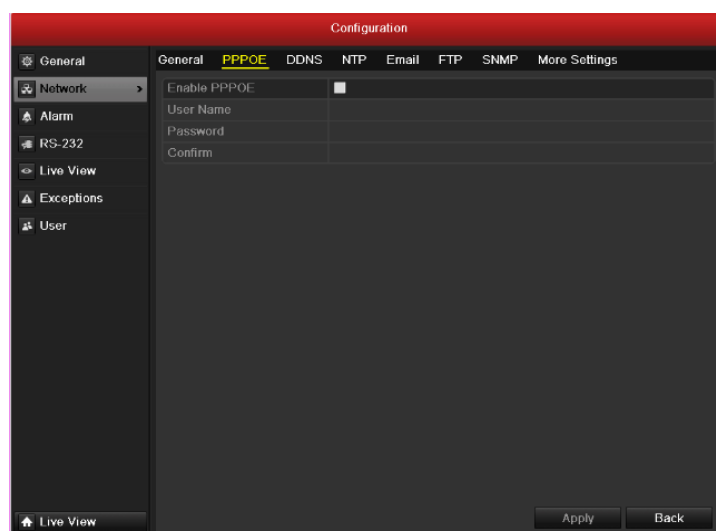

Figure 9.2 PPPoE Settings Interface
2. Select the **PPPoE** tab to enter the PPPoE Settings interface, as shown in Figure 9.2.